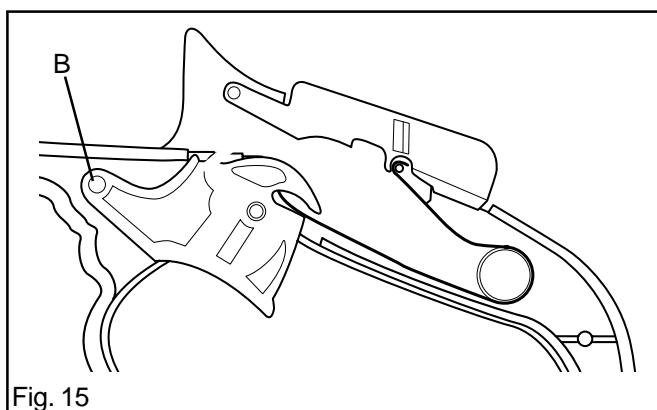

Fig. 15
5. Remove the throttle cable and lever. See fig. 15.